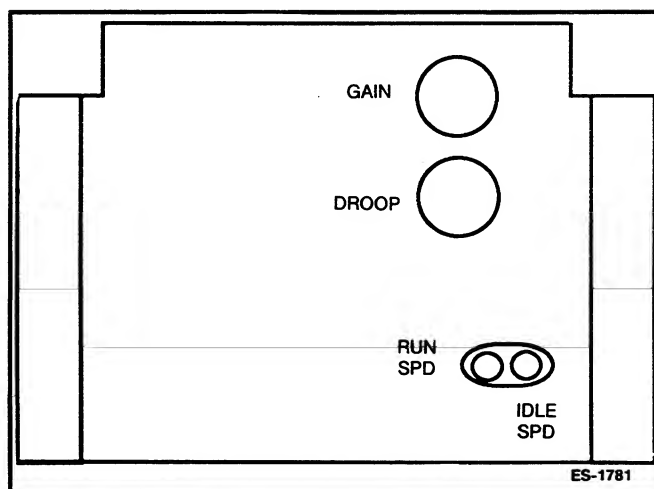

FIGURE 8-1. ELECTRIC GOVERNOR
Generator frequency is in direct ratio to engine speed which is controlled by the governor. A standard generator set uses a Cummins model EFC electric governor. (Other governor options are available, contact your distributor for further information.) The governor control has four potentiometers for making adjustments (see Figure 8-1). Use a frequency meter or tachometer to monitor the unit during adjustment procedure.
1. Idle Speed potentiometer (see Figure 8-1).
2. Run Speed potentiometer (see Figure 8-1).
3. Gain potentiometer (see Figures 8-1 and 8-2).
4. Droop potentiometer (see Figures 8-1 and 8-2).